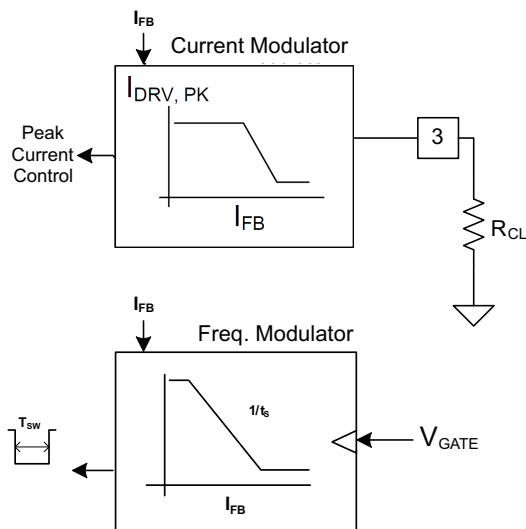
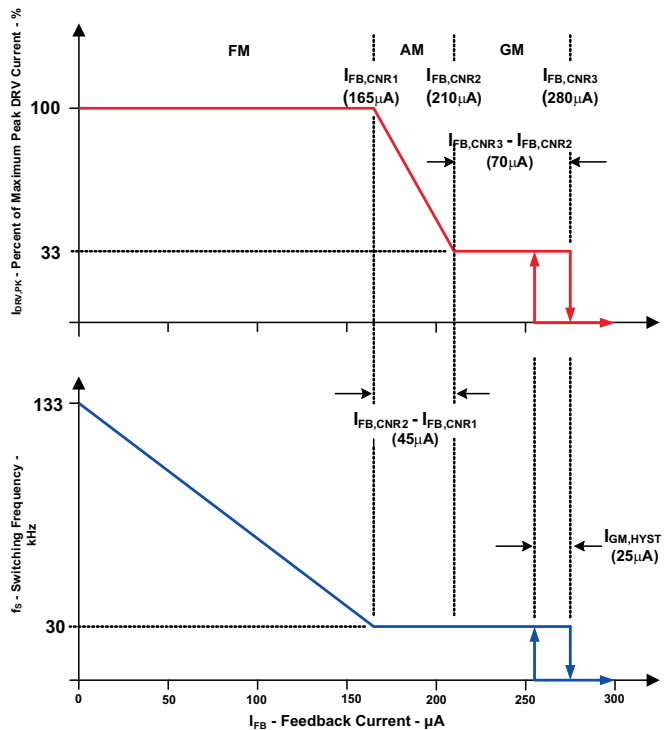

Figure 25. Modulation Control Blocks
Figure 26. Control Diagram with Operating Modes
Under normal operating conditions, the FB current commands the operating mode of the UCC28610, as shown in Figure 25 and Figure 26. The FB current commands the UCC28610 to operate the converter in one of three modes: Frequency Modulation (FM) mode, Amplitude Modulation (AM) mode, and Green Mode (GM).
The converter operates in AM mode at moderate power levels (2.5% to 22% of the peak regulated power). The FB current regulates the output voltage by modulating the amplitude of the peak HVMOSFET current from 33% to 100% of the maximum programmed value while the switching frequency is fixed at approximately 30 kHz. The UCC28610 modulates the voltage on the CL pin from 3 V to 1 V to vary the commanded peak current, as shown in Figure 25 and Figure 26.